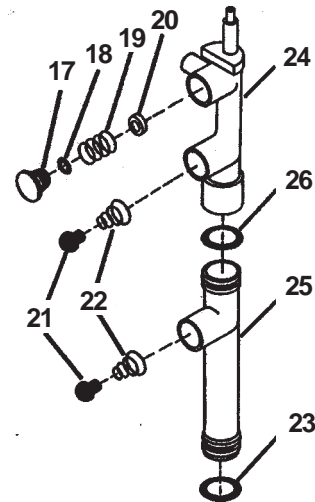

**Figure 7. Pump Disassembly Step One**
- Remove two small hand nut(s) (12) and top lock plate (13) from clamp rod (14). (See Fig. 7)
(See Fig. 7)